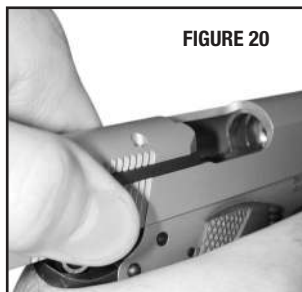

FIGURE 20
- With the muzzle still pointing in a safe direction, and with your finger off the trigger and outside the trigger guard, grasp the serrated sides of the slide (FIGURE 20) and briskly draw the slide fully rearward in order to extract any cartridge from the barrel chamber and clear it from the pistol. Do not obstruct the ejection port because doing so can interfere with ejection of a cartridge. Visually check the barrel chamber to be sure it is empty.